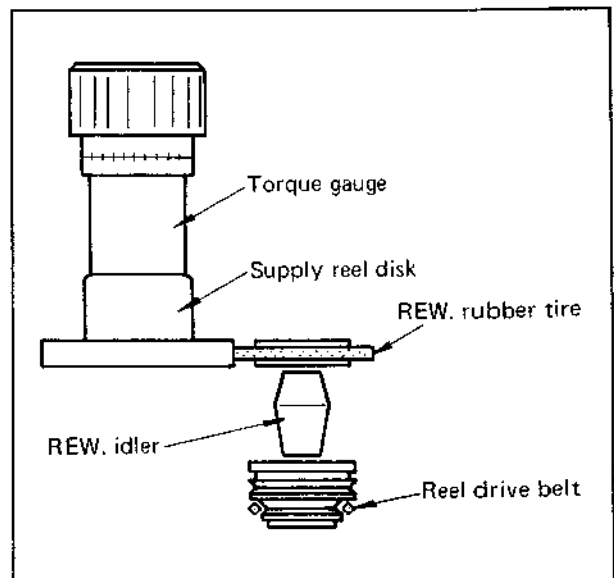

Fig. 4-8
3. Set the torque gauge on the supply reel disk as shown in Fig. 4-8. Perform measurement while allowing the torque gauge to turn so that its scale and indicator rotate at the same speed. Remove the supply reel disk load and confirm that it can be turned freely by hand.